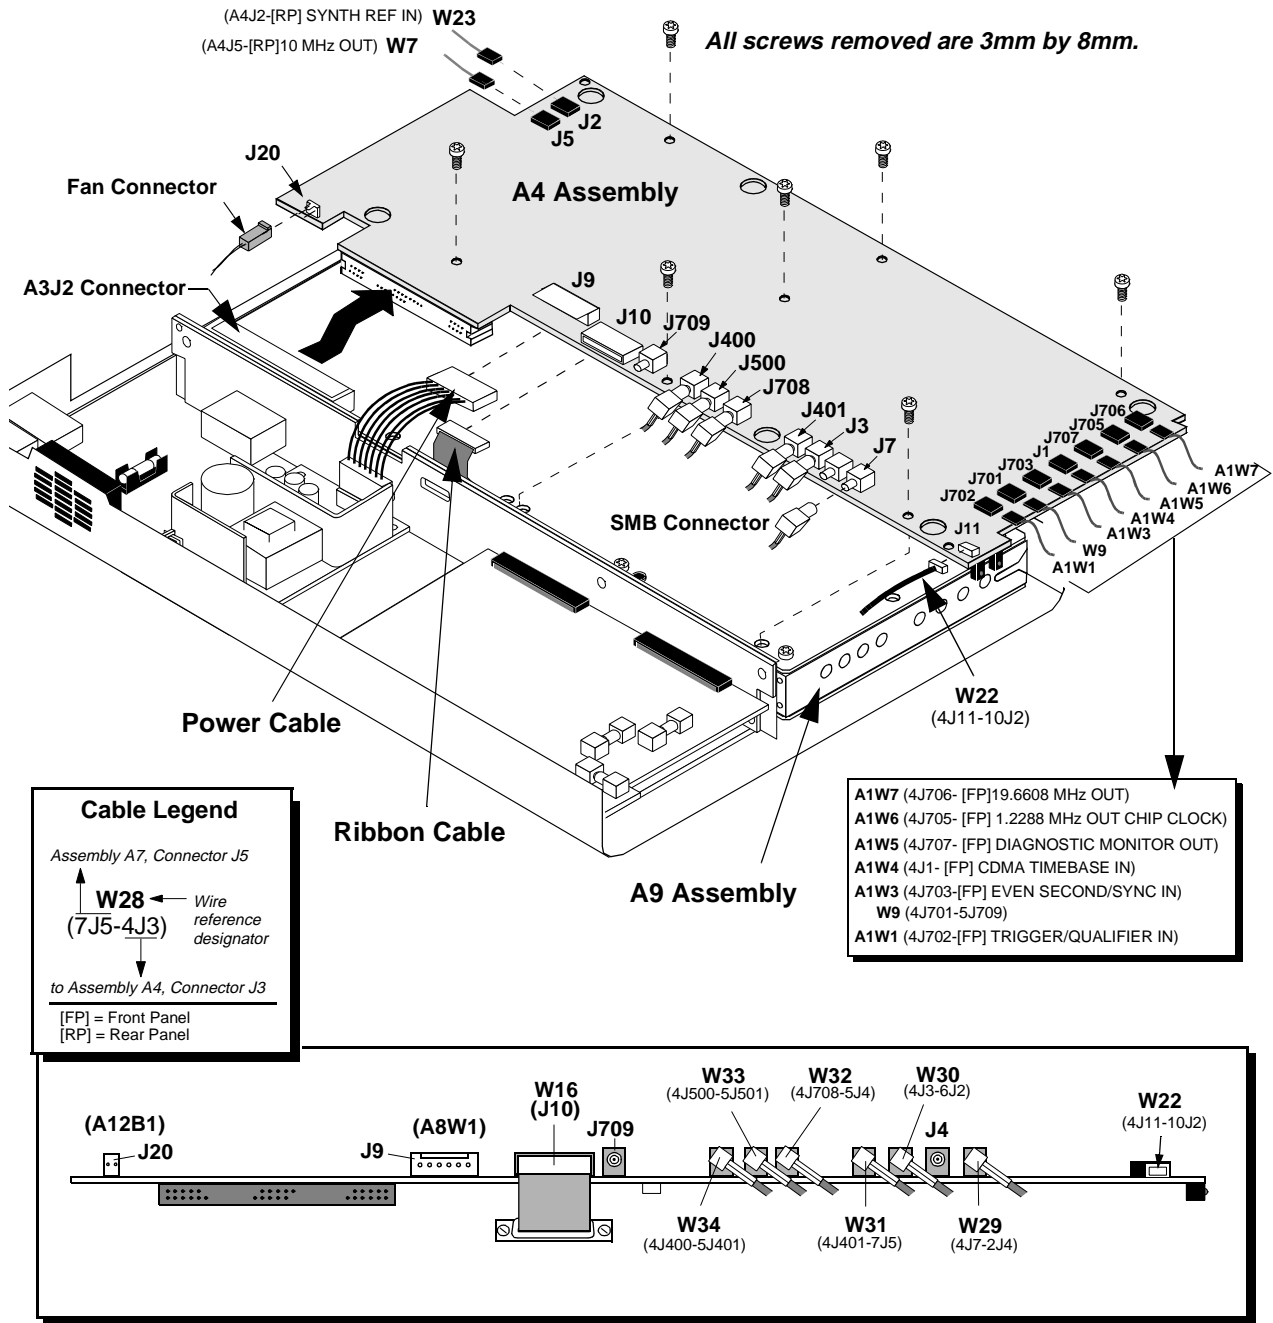

Figure 25 Removing the A4 Assembly
4. Remove the 7 screws that secure the A4 assembly to the A9 assembly, see figure 25 on page 73.
5. Disconnect from the A4 assembly: the fan, power, and ribbon cables, wires, and SMB connectors shown in figure 25 on page 73. Cable clips identify each SMB connector.
This completes the removal of the A4 assembly. Use figure 25 on page 73 to identify the location of the connectors and cables when reinstalling the A4 assembly.